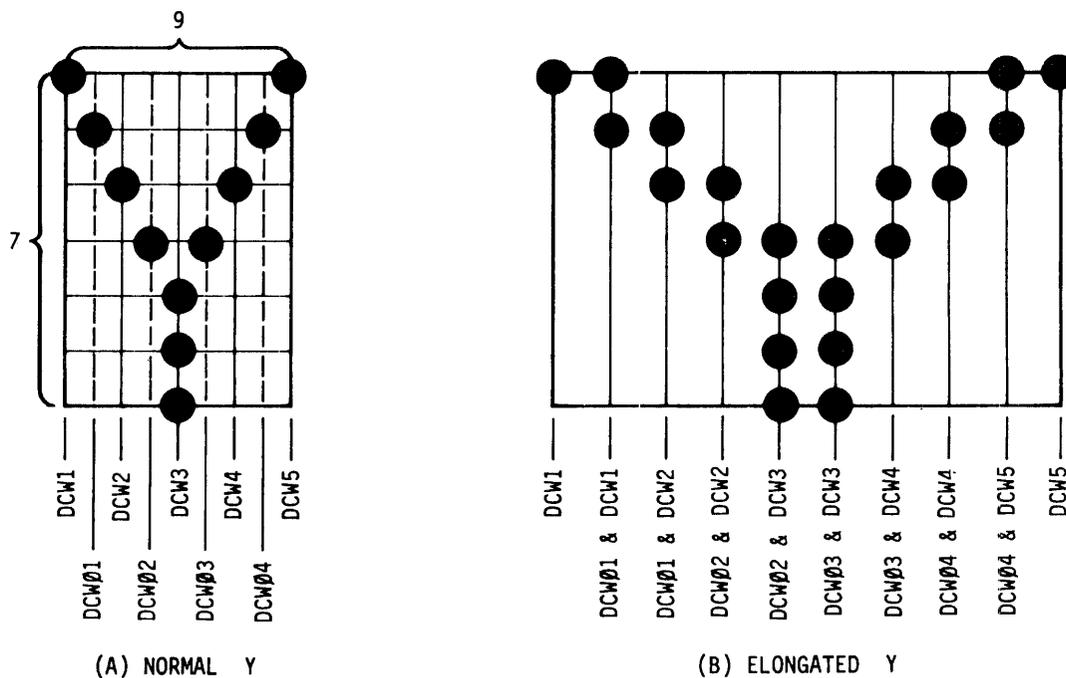

Figure 4-5. NORMAL AND ELONGATED CHARACTERS
As the carriage moves, the optical pick-up head and light source on the video amplifier assembly generates the video signal for controlling the print timing. As the print head and optical head assembly moves across the timing fence, the vertical slots on the timing fence interrupt light to the optical pick-up head, generating a video signal. The VIDEO AMP output then triggers the STROBE one-shot ME11 on the logic card, initiating the print timing shown in Figure 4-5.
For elongated character printing, ROME2 is coincident with the STROBE signal. This combined with the fact that the DCW timing signals from LSI chip ME9 are twice as long during elongated character mode, causes the printed character to be twice as wide as normal characters. An example of the character (Y), both in normal and elongated style, is shown in Figure 4-5.